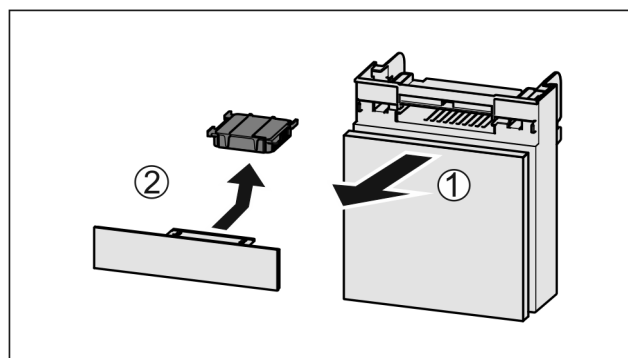

Fig. 81
- Pull out the compartment Fig. 81 (1).
- Remove the carbon filter Fig. 81 (2).